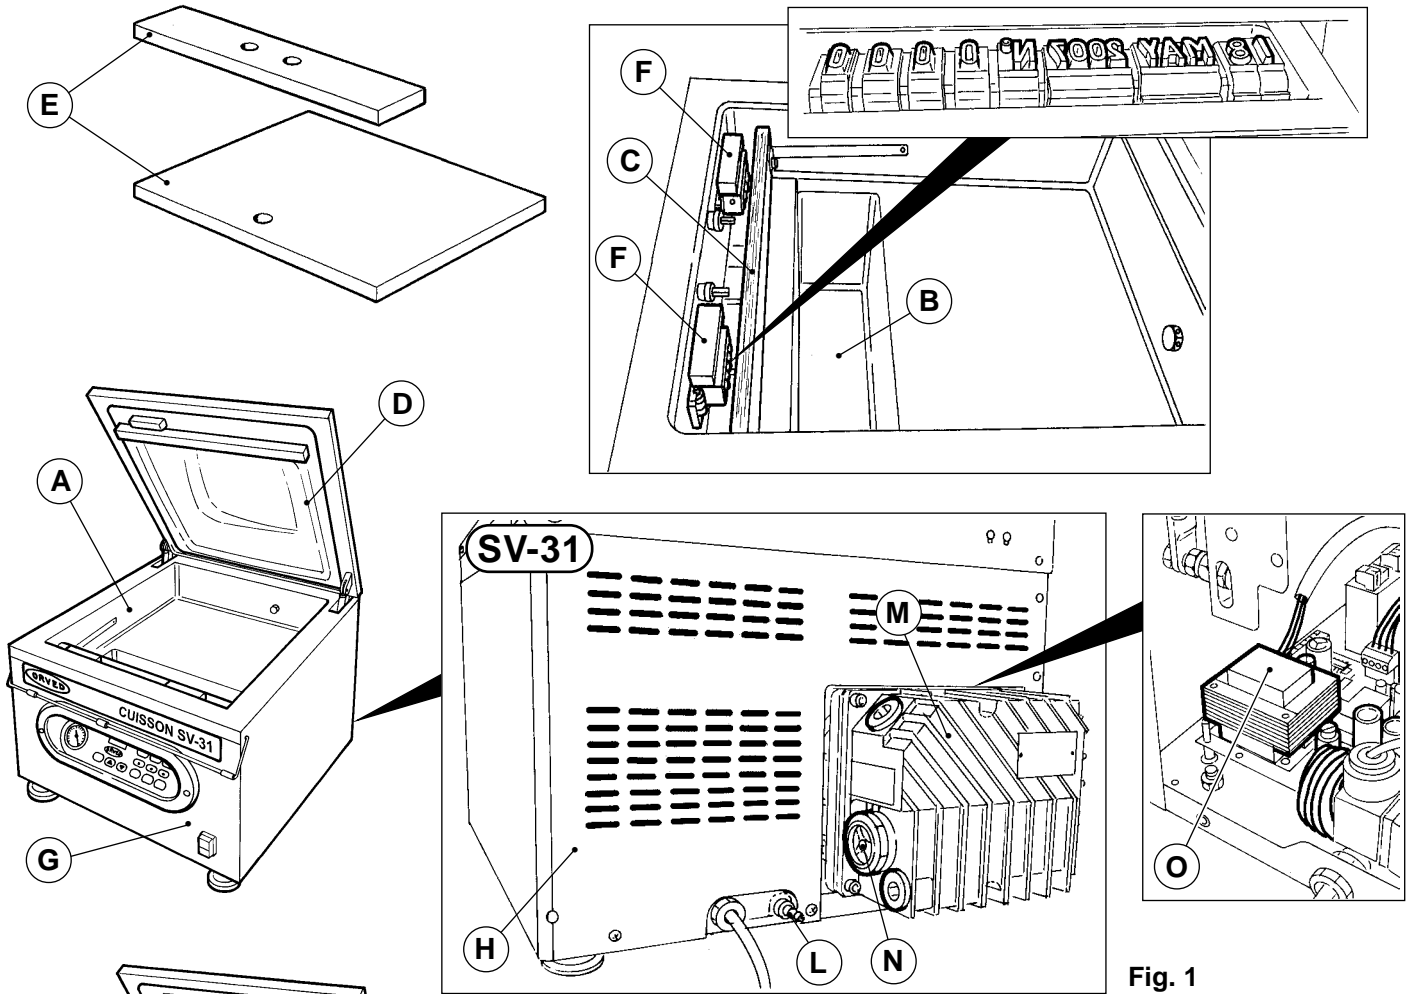

Fig. 1
- a stainless steel body **(G)**. The control panel and power switch are located on the front of the body while the rear is closed by a stainless steel panel **(H)**. Pump oil can be topped up through the left-hand side panel **(I - SV-41)** and the rear of the machine **(SV-31 Fig. 1)**. The union for connecting the gas canisters is located on the rear of the unit (left-hand side) **(L - SV-41 Fig. 2)** and in the centre **(SV-31 Fig. 1)**;